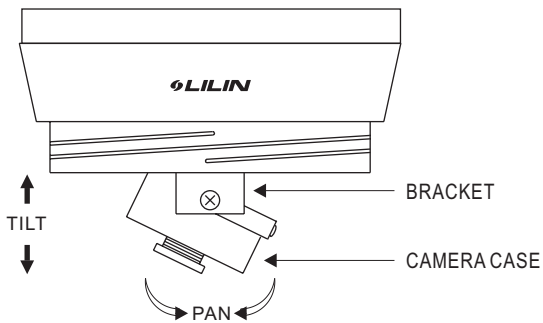
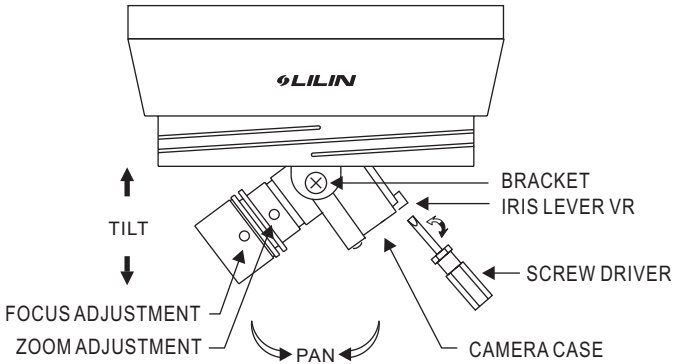

FIG. 2 (PIH-2026/2046)
FIG. 3 (PIH-2126X/2146X)
2. The direction of the lens is adjustable through the adjustable Pan/Tilt brackets and rotatable camera case. The lens can be adjusted easily by hand without using screw driver. Please refer to FIG.2 (PIH-2026/2046) and FIG.3 (PIH-2126X/2146X).
Please refer to FIG.3.